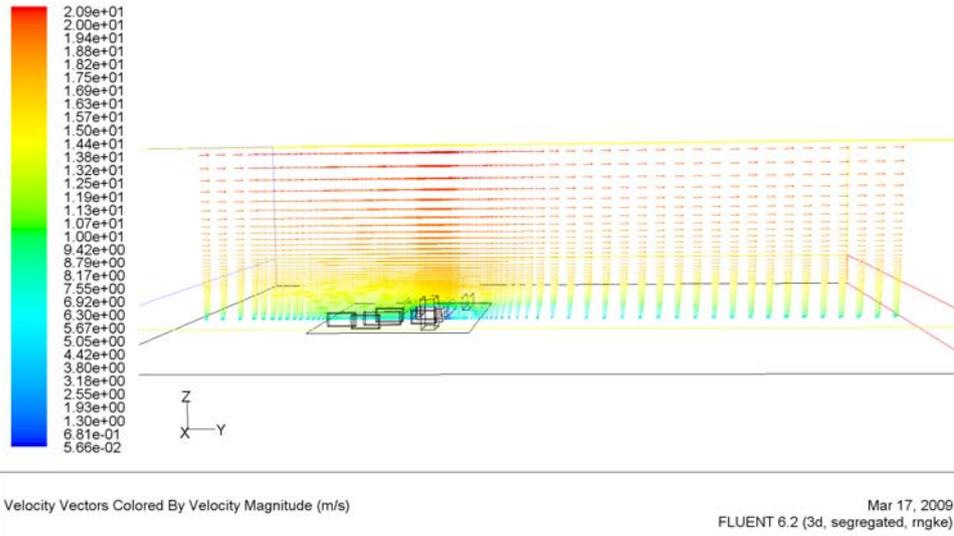

Fig. 23 Vectors at the middle plane.
*Now the vectors is copied to the clipboard which can be pasted to other programs (see Fig. 23).*